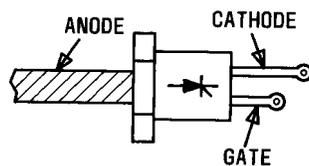

Fig. 4—Silicon Controlled Rectifier-Thyristor
- (1) Determine the polarity of the ohmmeter leads and connect the positive (+) lead to the cathode and the negative (-) lead to the anode. The value of resistance shall be 1 megohm minimum. Reverse the meter leads; the value of resistance shall be 1 megohm minimum. (Refer to Fig. 4.)